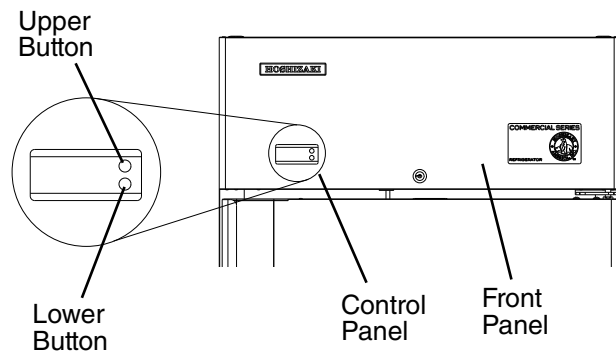

Fig. 5
- The cabinet temperature is displayed on the control panel. See Fig. 5. The display default is °F, but it can be changed to read °C. To change, see "II.C.3. Changing the Temperature Display Scale (°F or °C)".